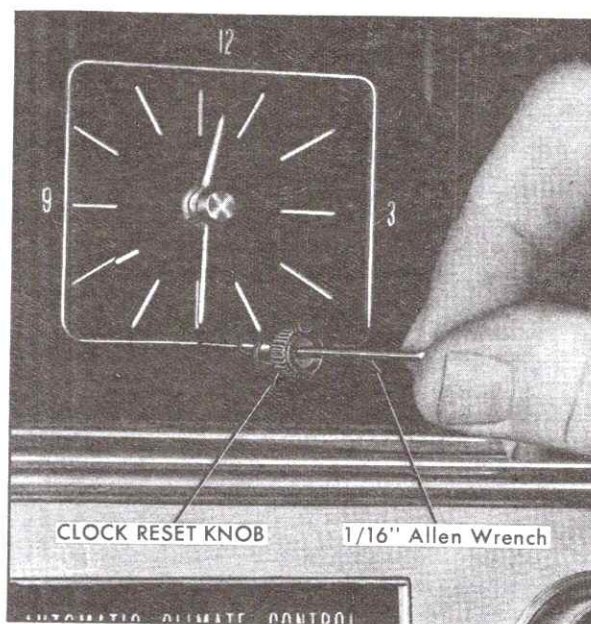

Fig. 12-40 Removing Clock Reset Knob
3. Remove clock reset knob retainer using a 1/16" Allen wrench, Fig. 12-40.
12. Install clock reset knob using 1/16" Allen wrench, Fig. 12-40.
2. Remove set screw securing clock reset knob, using 1/16" Allen wrench, Fig. 12-40.
4. Install set screw securing clock reset knob using 1/16" Allen wrench, Fig. 12-40.